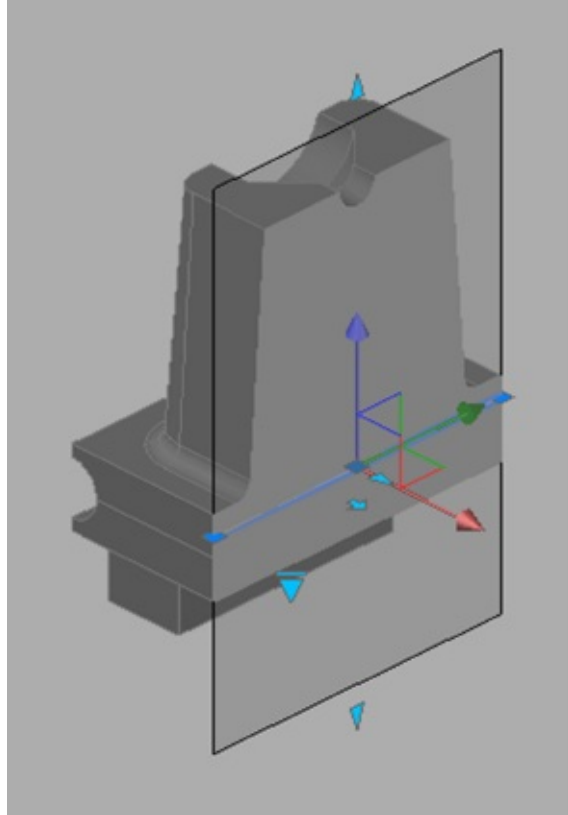

FIGURE 22.49 The surface plane fixed at a location
4. When the section plane is roughly in the middle of the tapered portion of the bracket, click to fix the plane in place. You should have a view similar to Figure 22.49.
Now you see only a portion of the bracket behind the section plane plus the cross section of the plane, as shown in Figure 22.49. You can have the section plane display the front portion as a ghosted image by following these steps: